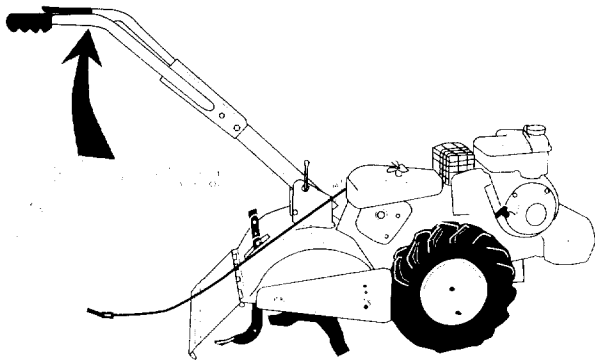

Figure 5
2. Raise the tine shield hinge flap assembly. Insert the depth stake assembly between the two shoulder bolts (under the tine shield) and up through the tine shield assembly as shown in Figure 5.
2. Line up holes in handle with slots in handle pivot bracket. From the right side of the unit, insert handle adjustment crank through handle pivot bracket and handle assembly. See Figure 5. Thread end of handle adjustment crank into the flange nut. Do not tighten at this time.